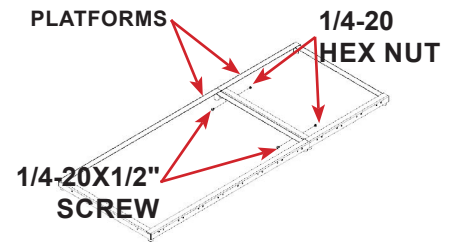

FIGURE 2.4 - Platform Attachment
**STEP 3:** Secure the platforms using 1/4-20x1/2" screw and 1/4-20 Hex Nut. See FIGURE 2.4